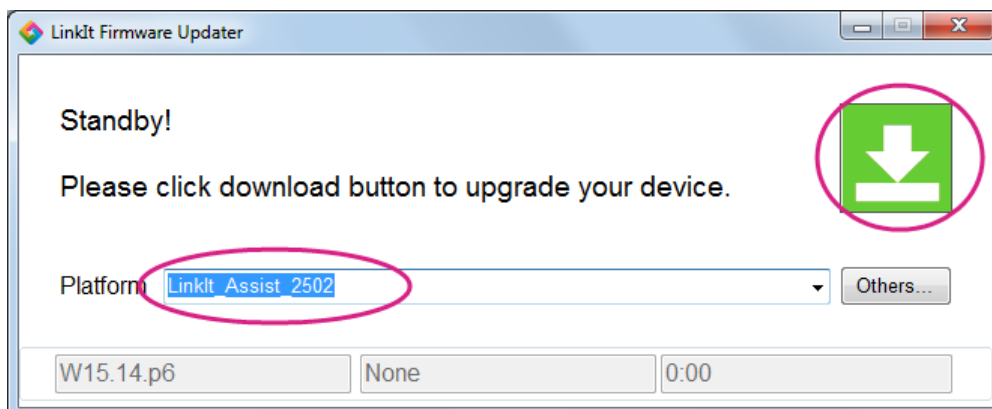

Figure 13 LinkIt Firmware Updater launch screen
- 4) In the **LinkIt Firmware Updater** window, in **Platform** select your development board. Then click the **green update** button, as shown in Figure 13.